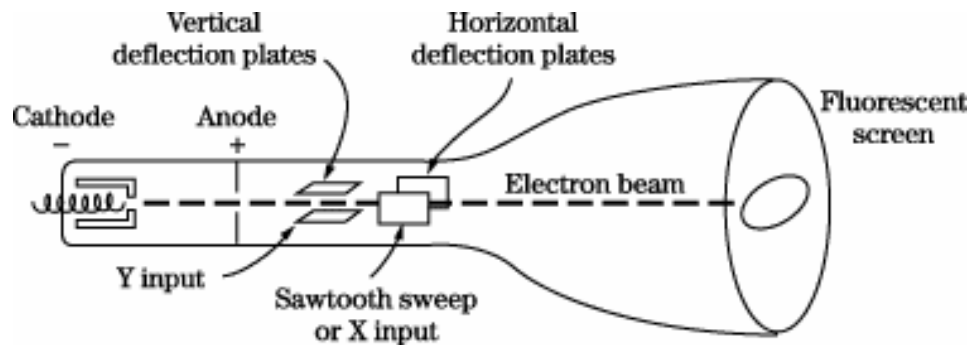

Figure D-1
*The Cathode-ray Tube:* This is one of the most versatile pieces of laboratory test equipment that you will use. It is really a type of analog voltmeter with an arbitrary zero. It can read DC voltages as an offset voltage and AC voltages by displaying the true wave form. Most modern oscilloscopes are capable of measuring AC signals over a wide range of frequencies. The range of frequencies that our scopes can handle (also called bandwidth) is 10 Hz to 100Meg Hz. The heart of any oscilloscope is the cathode-ray tube (CRT) shown in figure D-1.